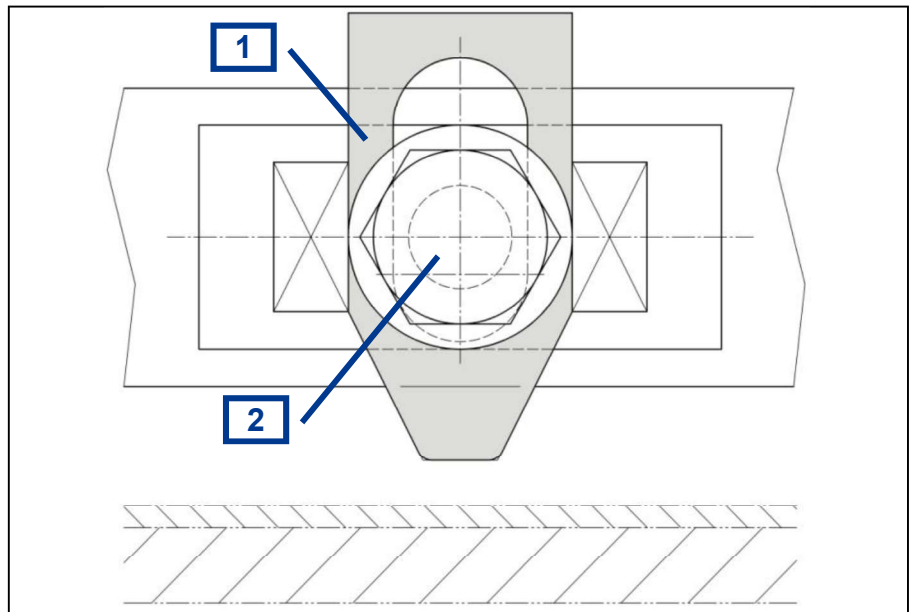

Fig.: 21 Scraper
1. ► Loosen the screw (Fig.: 21/[2]).
2. ► Push the scraper (Fig.: 21/[1]) down. The distance from the silo bottom should be between 5 – 10 mm. If this distance cannot be complied with, replace the scraper.
3. ► Loosen the screw (Fig.: 21/[2]).